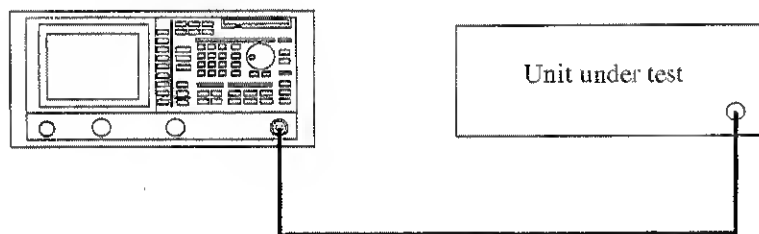

Figure 2-56 Setup for Measuring the Occupied Bandwidth
1. Connect the unit under test as shown in Figure 2-56.